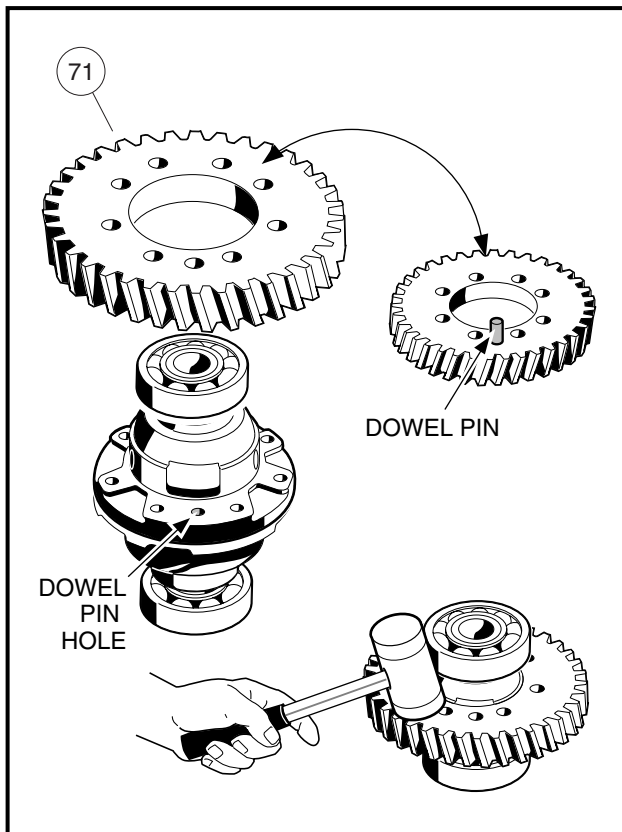

Figure 19-39 Ring Gear
6. Position the output ring gear (71) (**Figure 19-14, Page 19-10**) on the carrier case, visually aligning the dowel hole in the carrier case with the dowel pin in the ring gear. Using a plastic or rubber mallet, tap the ring gear into place on the dowel pin (**Figure 19-39, Page 19-20**).